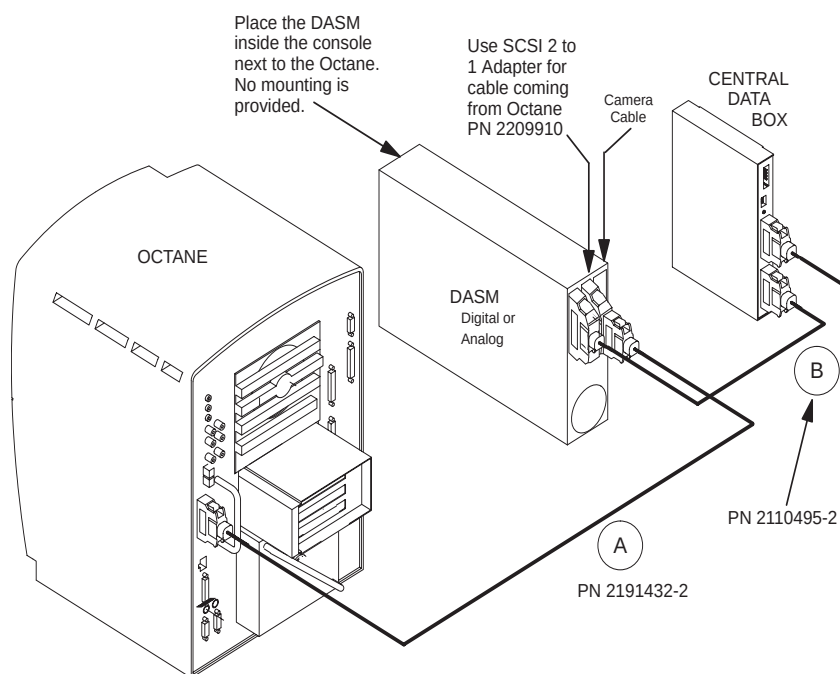

Figure 2-4 SCSI Cable Configuration with DASM
- 6.) Refer to Figure 2-4. Install SCSI 2 to SCSI 1 Adapter (2209910) to the back of the DASM.